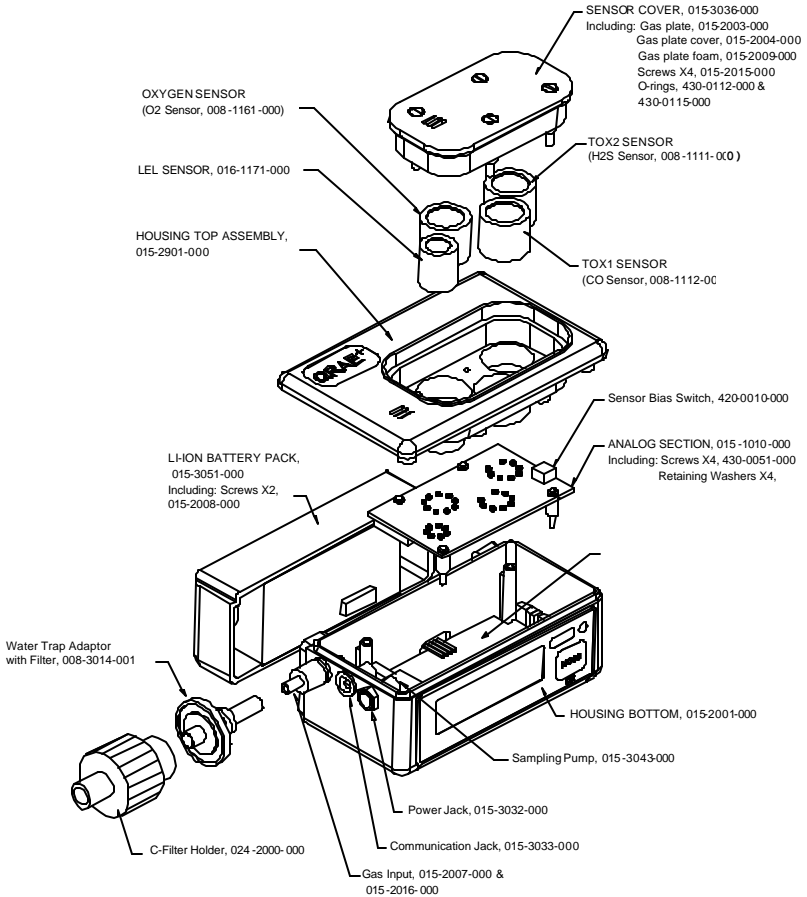

Figure 11. Main Components of QRAE PLUS
Refer to Table 2 & Figure 11 for assembly and part number information when ordering new components.
4. When changing the sensor or the dip switch setting, detach the battery first and then open the sensor cover only, do not open the housing top (refer to Figure 11.)
5. The four screws that tighten the housing top are under the unit (refer to Figure 11.) Remove the housing top only when changing pump is necessary. Before closing the housing top, do not forget to reconnect the tubing and the buzzer wire. A pair of needle nose pliers is helpful to reconnect the tubing and wire.